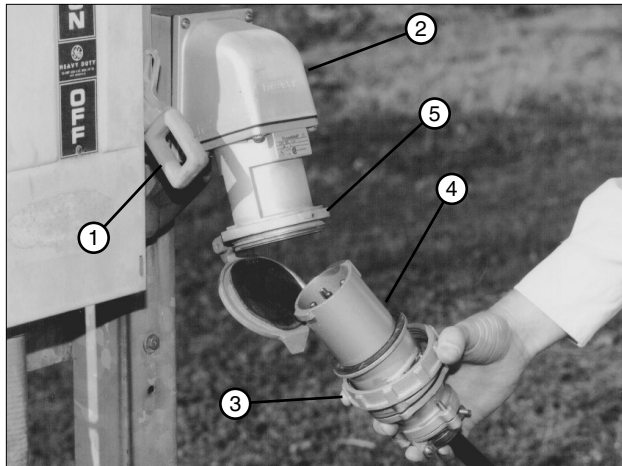

Figure 44-1 1. Disconnect Switch 2. Power Pedestal 3. Plug Cap Collar 4. Plug 5. Receptacle
- Turn the power pedestal disconnect switch to the OFF position. See Figure 44-1.
- Remove plug cap from electric cord plug, and insert the electric cord plug into the power pedestal receptacle. See Figure 44-1.